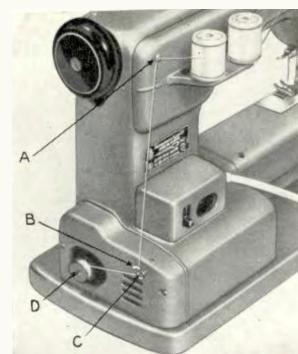

Fig. 6.
Place a spool of thread on the spool pin nearest the hand wheel. Run the thread through the thread guide (A, Fig. 6) and down under the guide (B) on the tension device and back between the tension discs (C).